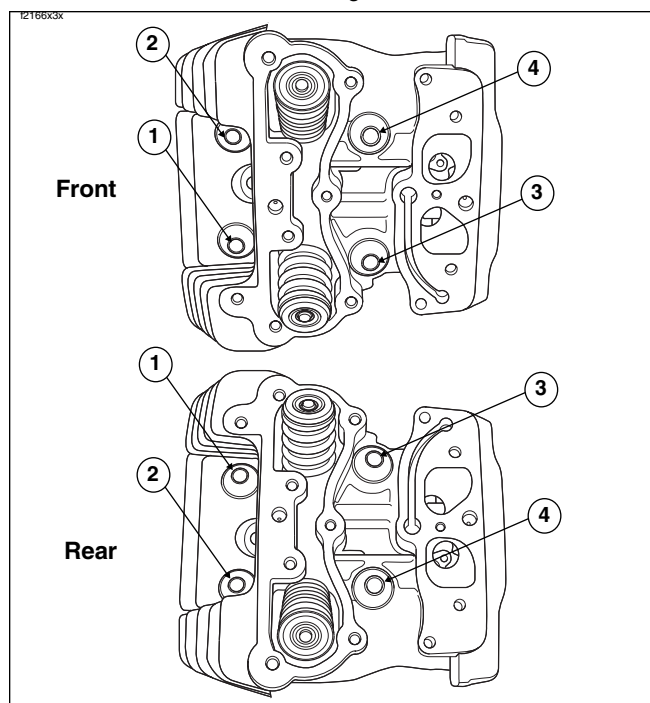

Figure 1. Cylinder Head Tightening Sequence
2. See Figure 1. Tighten cylinder head bolts incrementally in the sequence shown, first between 120-144 in-lbs. (13.5-16.2 Nm). Then between 15-17 ft lbs (20.3-23 Nm).
2. See Figure 1. For each cylinder head, start with bolt numbered one, as shown. In increasing numerical sequence (i.e. 1,2,3,4) tighten head bolts in the following steps: